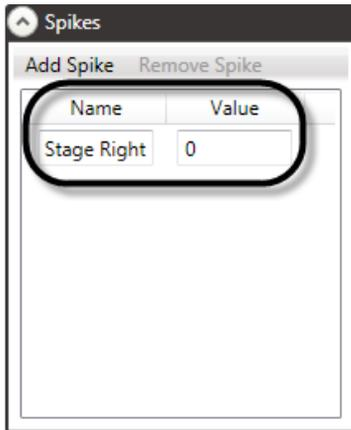

Figure 303
*In the example in Figure 303, the **Name** of the Spike is “Stage Right” and the **Value**, or where the Spike will be placed, is position “0.”*